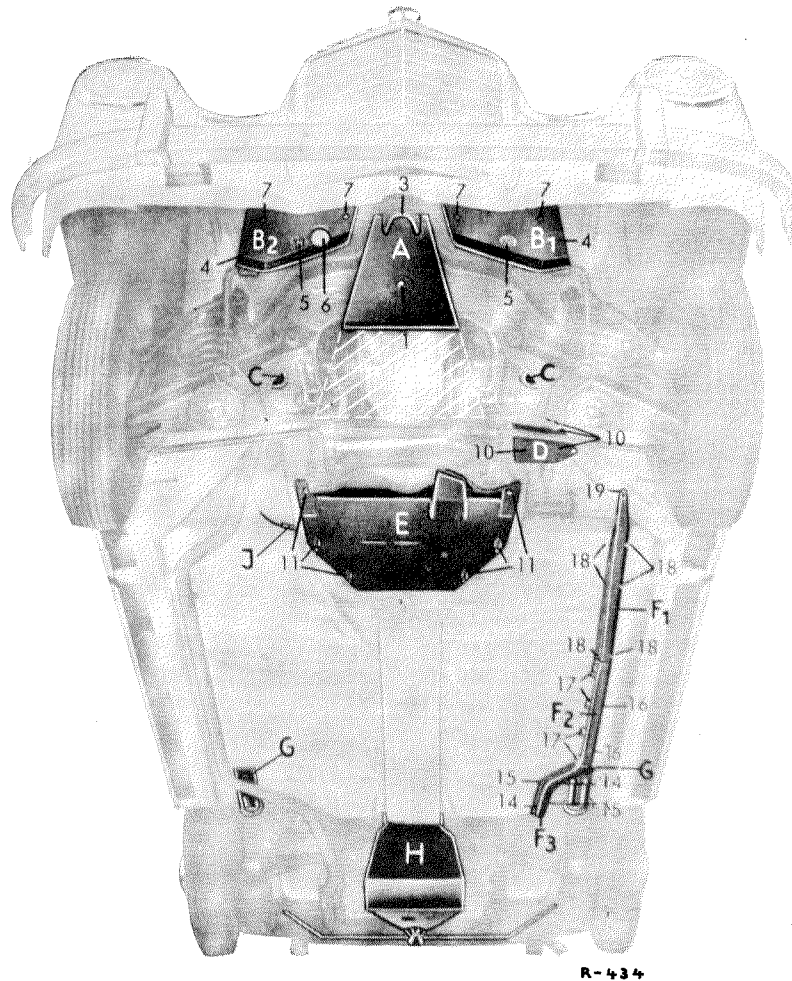

Fig. 52 — 1/2
1. Hold the protective plate (A) against the front axle support and check for fitting; if necessary, adjust (see Fig. 52 — 1/2).
Note: Recently, an extended protective plate, Part No. 121 330 03 83, has been brought into use. This plate affords protection over the whole length of the oil pan. This protective plate is shown in broken lines in Fig. 52 — 1/2.
2. Insert the hexagon screw (1) M 10 × 25 with lock washer in the bore of the protective plate (A) from underneath (see Fig. 52 — 1/1) and screw the fixing plate (2) from the other side, about 3 turns onto the hexagon screw (1).
- Slide the fixing plate (2) into the front opening in the front axle support and tighten up the hexagon screw (1) (see Fig. 52 — 1/1).
The protective plate is fixed by its stamped-out part in the opening of the front axle support and at the cut-outs for the towing hook (3) (Fig. 52 — 1/2).